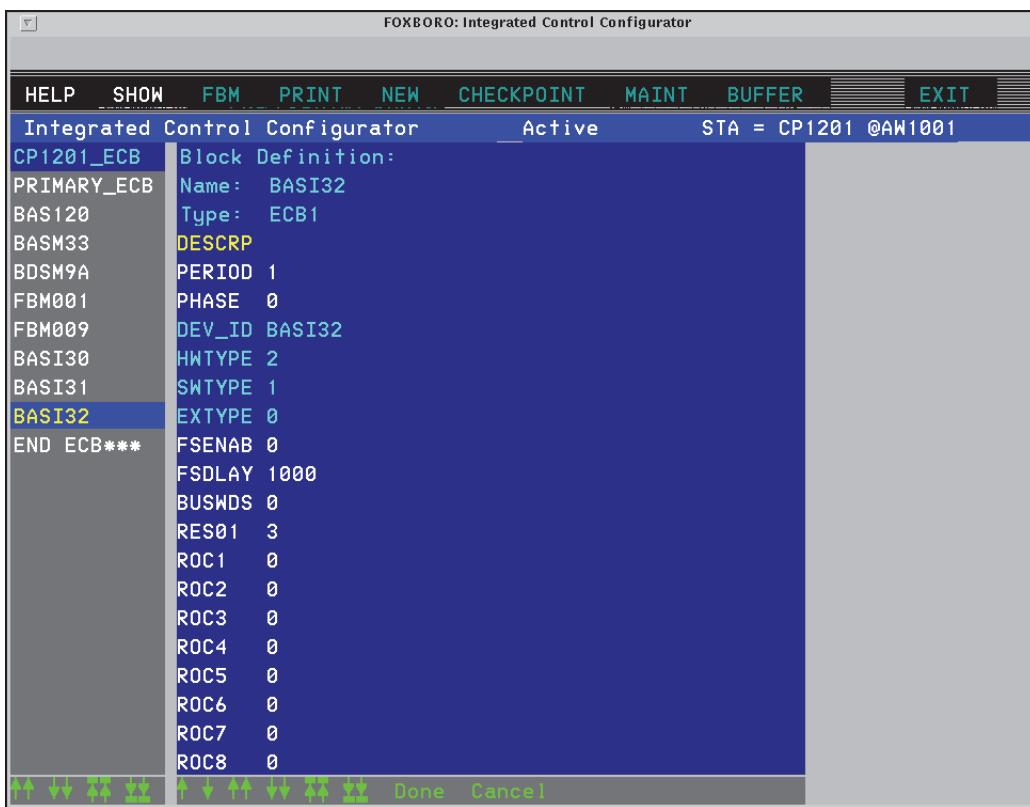

Figure D-8. Example Configuration, Second FBM02 ECB (BASI32) for BASI03 (SMDH)
Configuration for the second FBM02 ECB for is similar to that for the first FBM02 ECB. In our example (see Figure D-8), for the second FBM02 ECB, the FSDLAY parameter is kept at its default value (1000)², and FSENAB is kept at its default value (0); therefore, all of the remaining channels (9 through 16) are ranged for 4 to 20 mA/1 to 5 V dc.